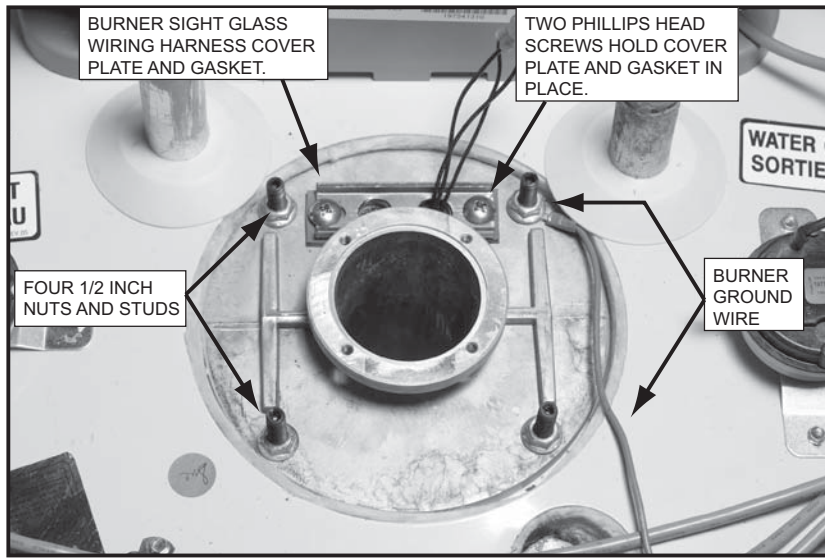
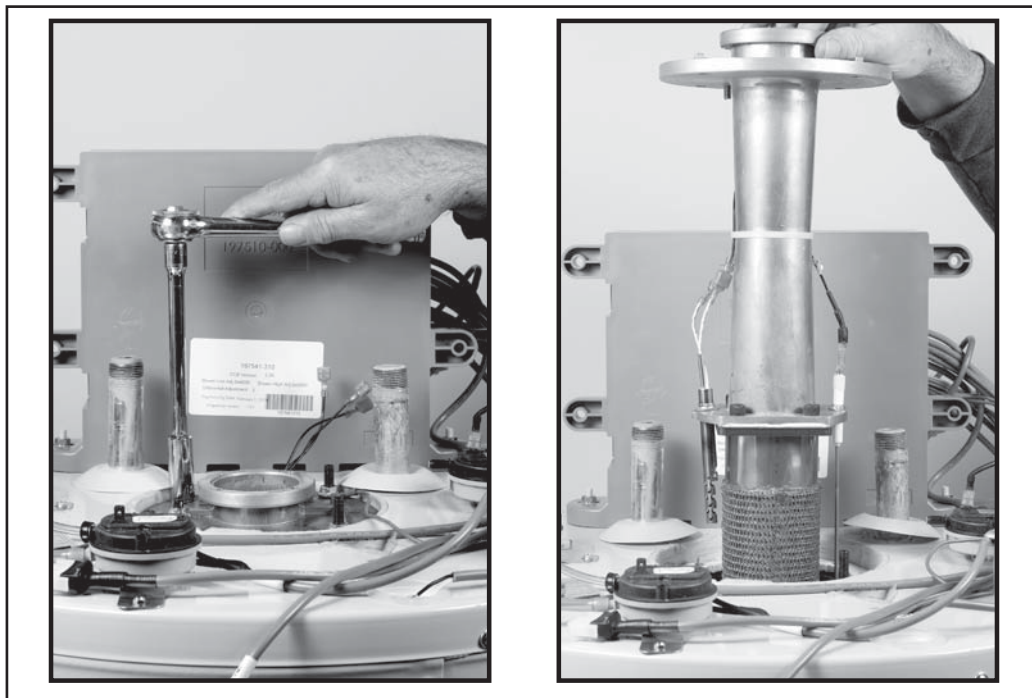

Figure 16
Figure 17
4. Using a socket wrench with a 1/2 inch deep well socket remove the four 1/2 inch nuts from the studs holding the Burner Adapter in place, see Figure 16 on page 17 and Figure 17 on page 17.
5. Slide the Burner ground wire eyelet connector up and off of the 1/2 inch stud it is secured to. This ground wire must be put back in place when reinstalling the Burner Assembly, see Figure 16 on page 17.
7. Carefully lift the Burner Assembly straight up and out of the water heater's heat exchanger opening, see Figure 17 on page 17.
Flame sensing requires correct power supply polarity and an adequate earth ground to the water heater's Burner, see Electrical Requirements and the Power Supply Test on page 6. See Figure 16 on page 17 for the Burner ground wire location.
- The Burner not being grounded will cause **Ignition Failure** - see Electrical Requirements on page 6 and Figure 16 on page 17. Ensure the water heater and the Burner are properly grounded.